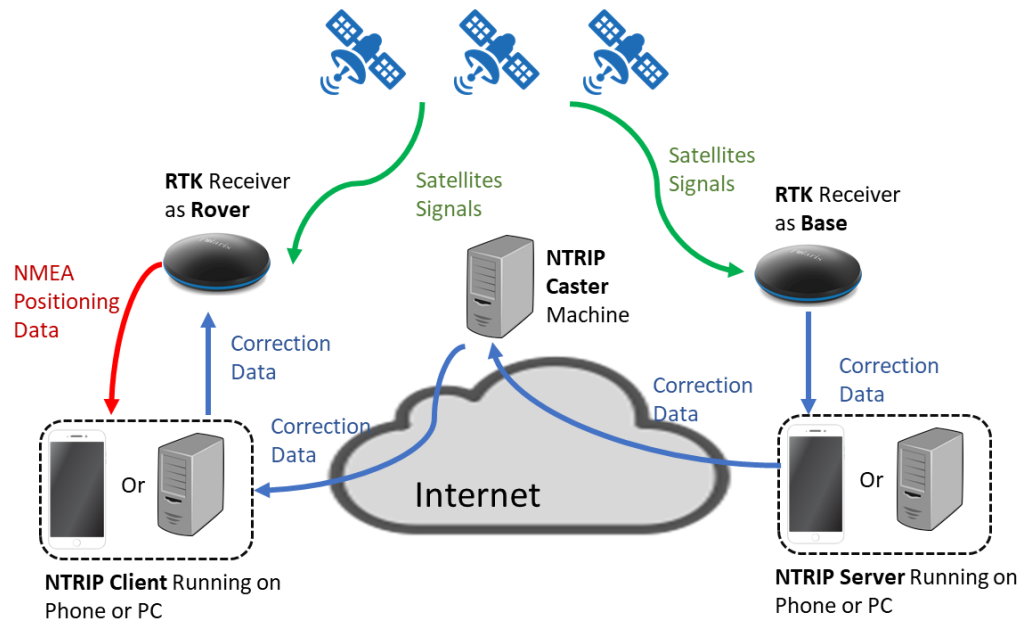

Figure A-4
NTRIP is a protocol to deliver RTK correction data from RTK Base to RTK Rover, which is comprised of three services (1) NTRIP Server (2) NTRIP Caster (3) NTRIP Client. The three services run on three internet-enabled machines which are apart from one another in most cases. The general structure of NTRIP can be illustrated in Figure A-4.